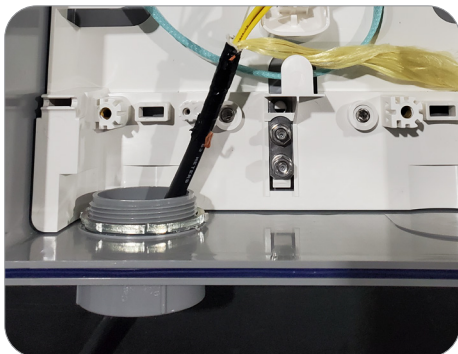

Figure 42
1. Insert the prepared cable through the lower left conduit (Figure 42). ****If installing in the grommet version of the LL-5D, omit this step.****